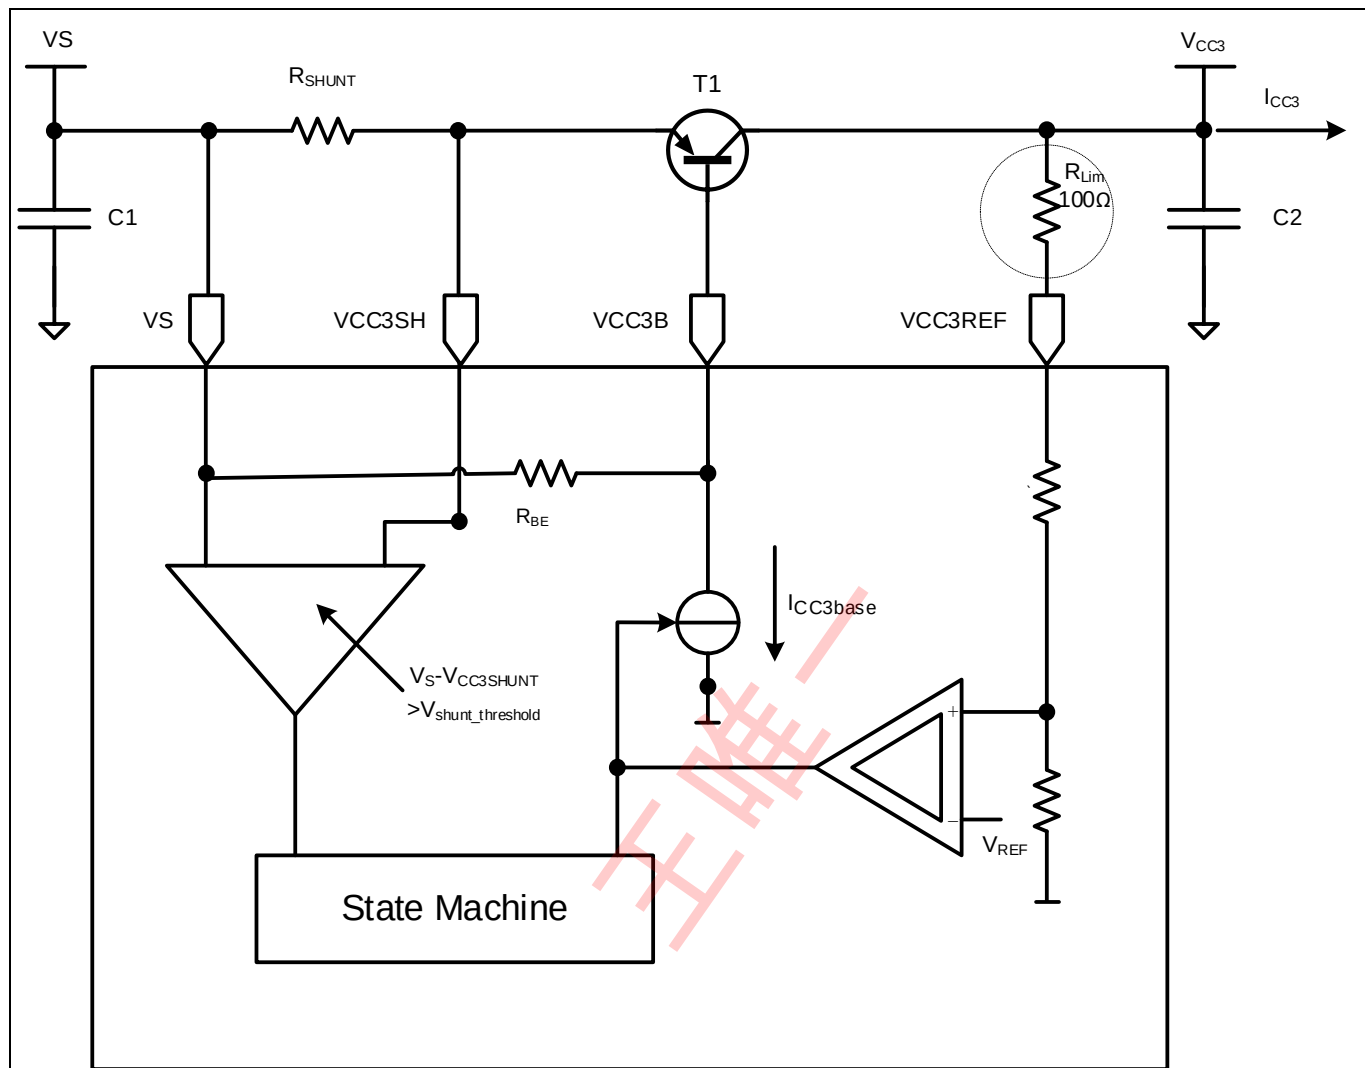

Figure 24 Protecting the VCC3 against inductive short circuits when configured as an independent voltage regulator for off-board supply
- When VCC3 supplies external off-board loads, the application must account for the series resonance formed by the cable inductance and the decoupling capacitor at the load. Adequate damping must be ensured—for example, by placing a **100 Ω** resistor between the PNP collector and VCC3REF, together with a **10 μF** capacitor at the collector node (refer to **Figure 24**).